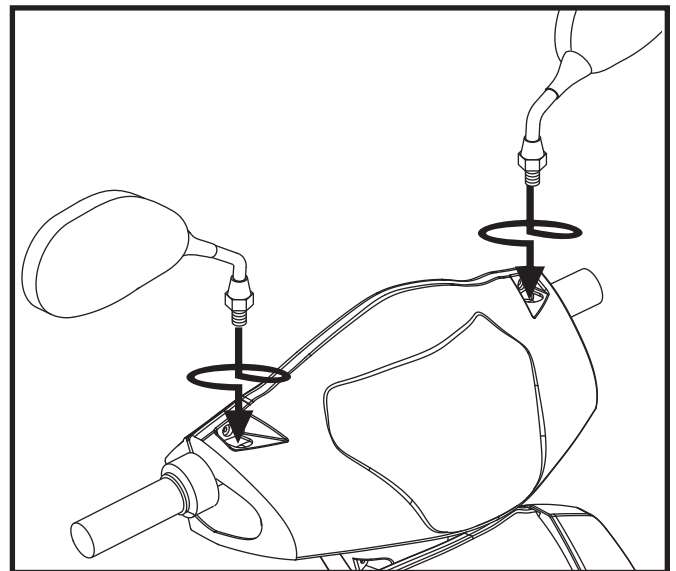

Figure 15. Mirror Position Installation/Adjustment
2. Adjust the mirror left, right, up, or down until you have a good line of sight behind you. **See figure 15.**